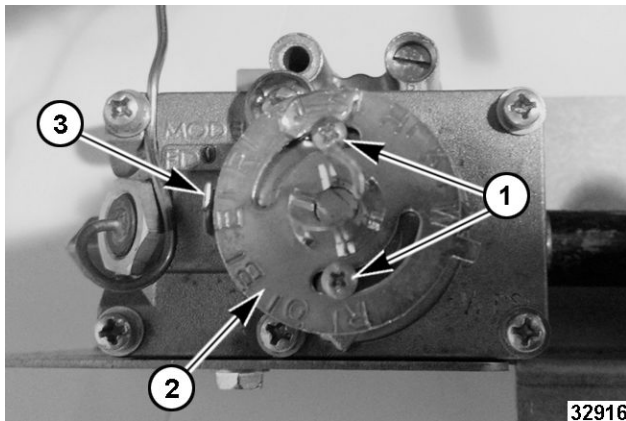

Fig. 140
- B. Loosen both calibration screws (1, Fig. 140) until calibration plate moves independently of the control.
- C. Turn calibration plate (2, Fig. 140) until mark corresponding to test instrument or thermometer reading is in line with center of pointer "A" (3, Fig. 140), and while holding in this position, tighten calibration screws firmly.